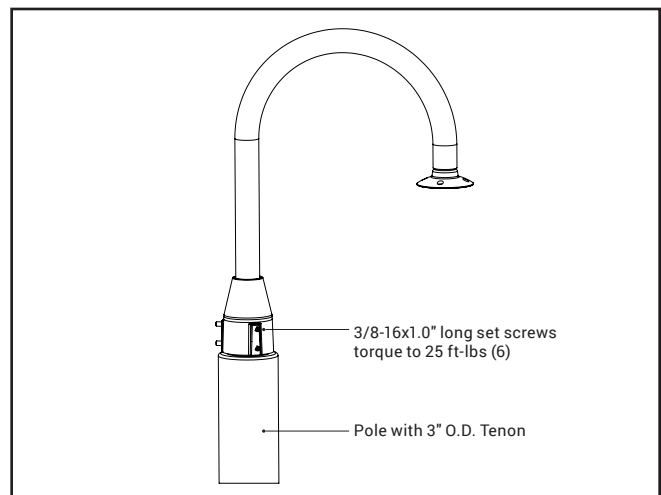

Figure 10.
3. Mount the bishop arm to the pole as shown in Figure 10. Torque the 3/8-16 set screws to 25 ft-lbs in 6 places.